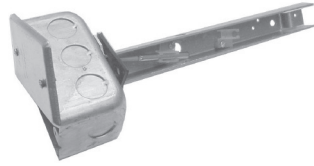

Figure 11. Sensor Holder and Junction Box Assembly
- b. For units with sensor holder and junction box assembly option (see Figure 11):